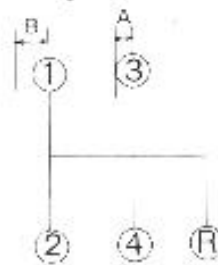

Fig. 8-40
1. In case of difficulty in shifting gear to "low" and "second" position. Move gear shift control lever housing to left and shift the gear shifting lever to "third" position, and then adjust "A" in the Fig. 8-40, to about 10 mm (0.4 in), and "B" to allow more play than "A".